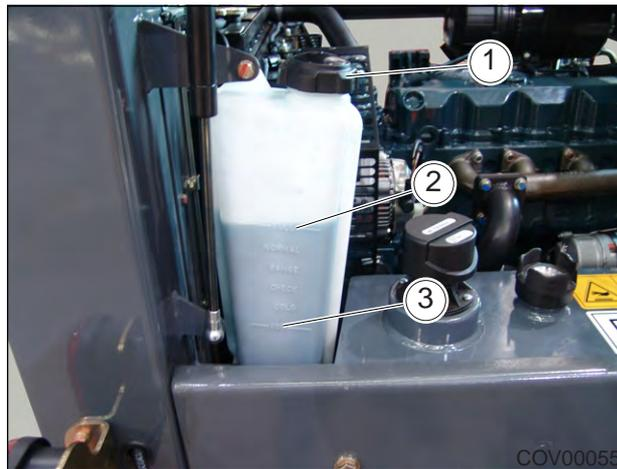

Figure 9.11 - Cooling System Expansion Tank
(1) To Top Up the Cooling System
This operation must only be performed by topping-up the plastic expansion tank, Figure 9.11 to maintain coolant level within the Full (Maximum) (2) and Add (Minimum) (3) marks on expansion tank. The tank is accessible when the engine cover is open.